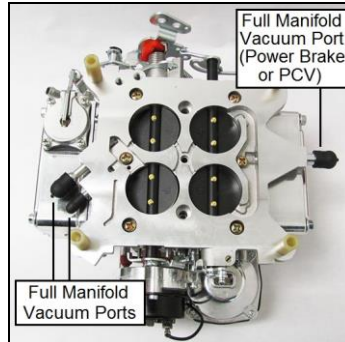

Figure 2
4. Reconnect the appropriate vacuum hoses to the carburetor. **Be sure to plug any vacuum sources not used (Figure 2).**